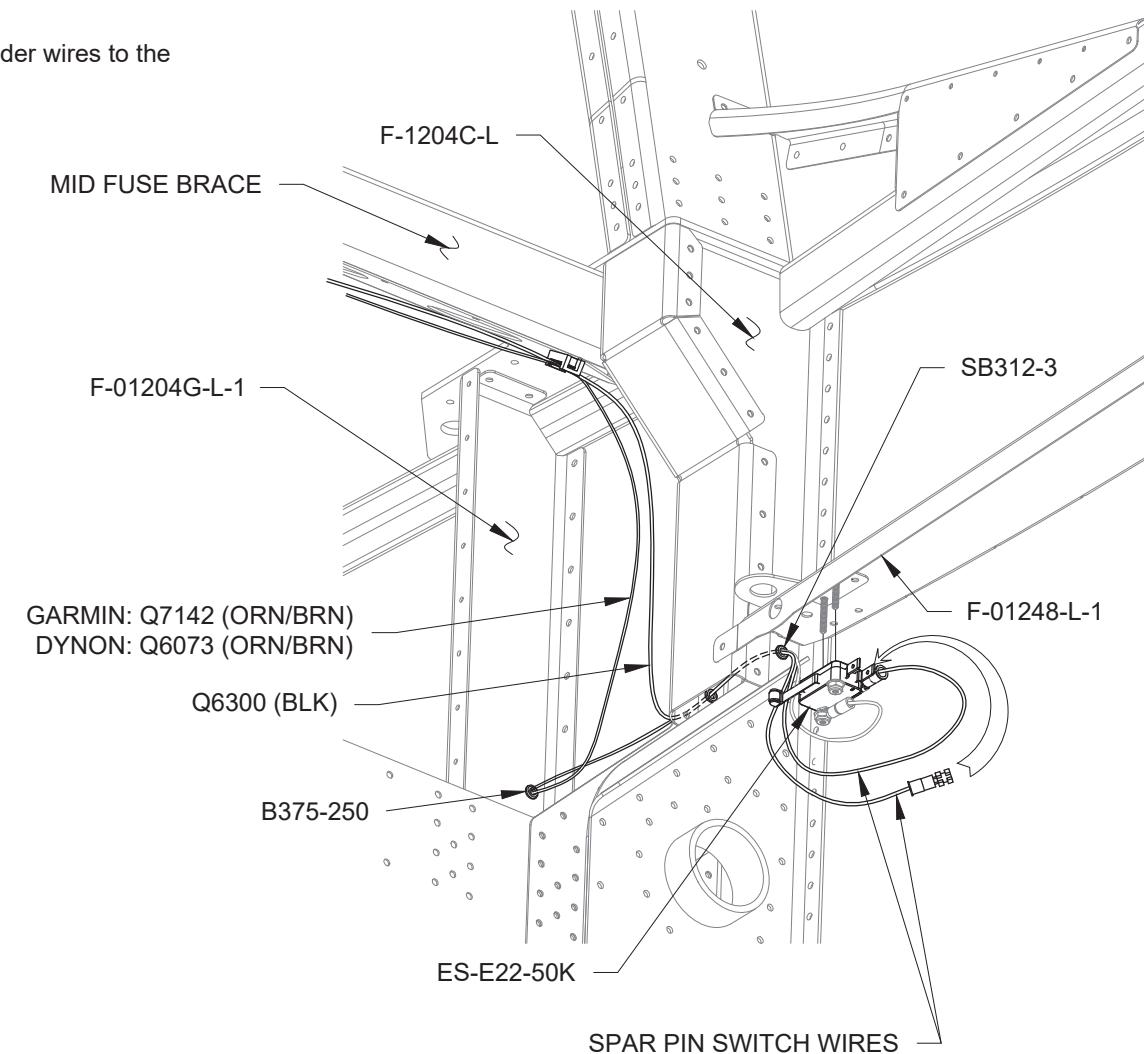

FIGURE 2: CONNECTING THE LEFT SPAR PIN SWITCH
Step 2: Route the wires for the fuel sender and spar pin switch up through the holes in the F-01224-L-1, F-01204F-L-1, and F-01204G-L-1 as shown in Figure 1 and Figure 2.
Step 4: Connect the spar pin switch wires to the center spade (labeled "NO"), and the outboard spade (labeled "COM") of the ES E22-50K Spar Pin Switch as shown in Figure 2. It does not matter which wire goes to which spade.
Step 6: Install snap bushings in the F-01204F-L-1, F-01204B-L-1, F-01204G-L-1, and F-1204C-L as shown in Figure 1 and Figure 2. Slit the snap bushing prior to installation. Repeat for the right side of the aircraft.